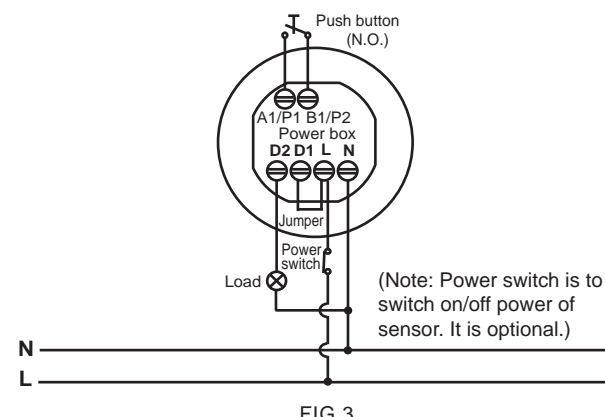
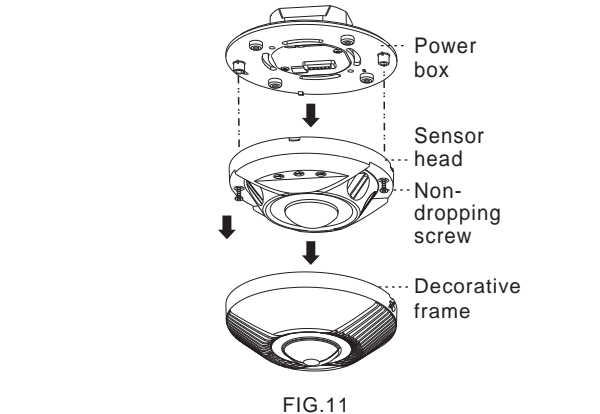
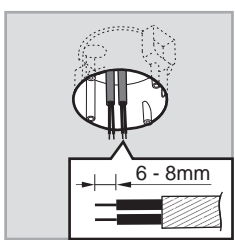

FIG.3
FIG.11
FIG.12
3.2.1.1 One sensor controls one load (See FIG.3).
3.3.3.1 Take off the decorative frame (See FIG.11).
3.3.3.2 Pull out cables from European standard junction box (See FIG.12), then strip off 6 - 8mm of cable sheathing for wiring, and refer to the wiring diagrams for correct cable connections (See FIG.3 - FIG.6-A & B).
3.3.3.4 Assemble the sensor with power box, then fix them with two screws (See FIG.11).
3.3.4.5 Refer the FIG.11 to assemble the sensor head with the power box, and then refer to the wiring diagrams (See FIG.3 - FIG.6-A & B) for correct cable connections.
4.2.1.1 Connect terminal A1/P1 B1/P2 with push button (N.O. type) to manually control the load's on / off (See FIG.3). When the load is off, press the push button to manually control the load on. The load keeps on if the movement is detected constantly. The load can be automatically switched off if no movement is detected and the delay time has expired, or by pressing the push button again. When the load is off, the movement cannot trigger the load on, and the sensor will return to the previous mode until detecting the last movement and the delay time has expired.